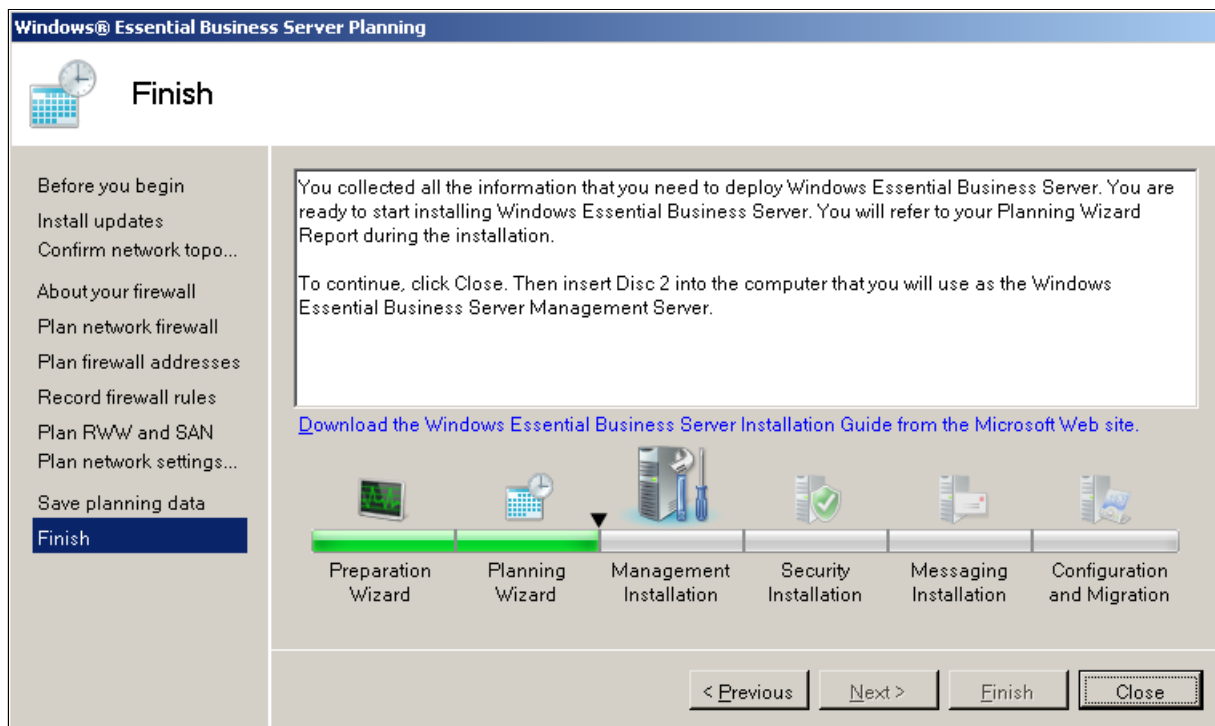

Figure 3-18 Finishing the Planning Wizard
11. The “Finish” panel (Figure 3-18) displays your current progress and informs you how to proceed to the next step, which is installing the Windows Essential Business Server Management Server. Click **Close**.